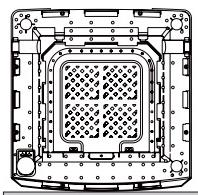

Figure 1
1. Please lean the washing maching gently down on soft items,such as towel, cloth, blanket, etc.(as indicated in Figure 1)